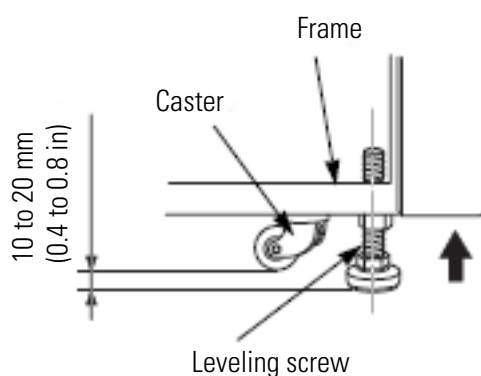

Figure 5-2 Leveling adjustment
1. Turn the four leveling screws with a wrench to lift the caster about 10 to 20 mm (0.4 to 0.8 in) off the floor as shown in Fig. 5-2.